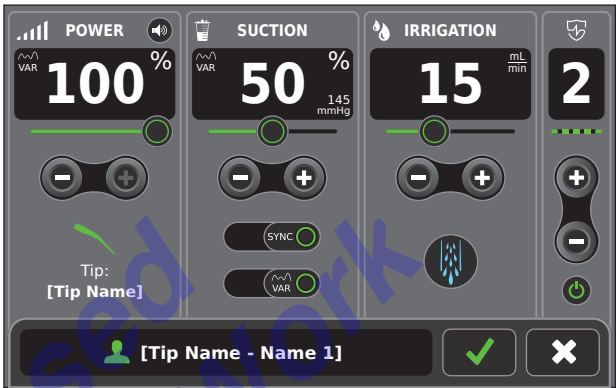

Figure 56 – Select Preset Settings
6. From the preset SETTINGS screen, adjust and select the power, suction, irrigation, and Pulse Control (if activated) settings for the selected tip (Figure 56).